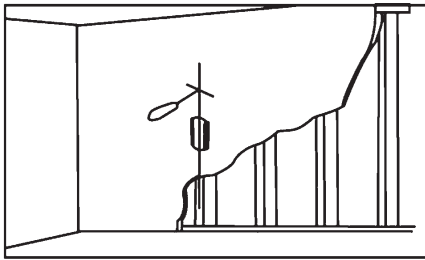

Fig. 3b
1. Use a pencil, awl, or a nail to mark the location of the wall stud centers (Fig 3b) after locating the stud with an electronic stud locator. The distance between marks should not be less than 16 inches (Studs must not be less than 16 inches (40.6 cm)).